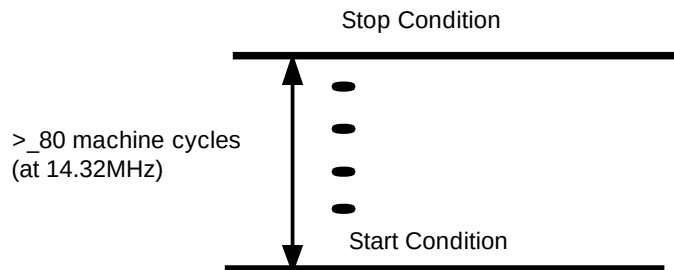

Figure 1-4 Start and Stop Conditions
- figure 1-4 shows the software method of attaining the bus free time indicated above. The microcontroller requires 80 machine cycles from the time the stop condition occurs to the time the next start condition occurs.